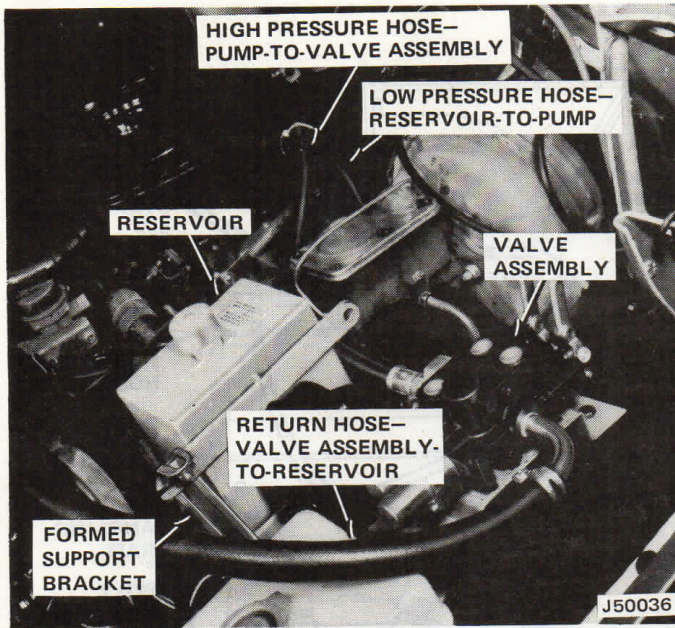
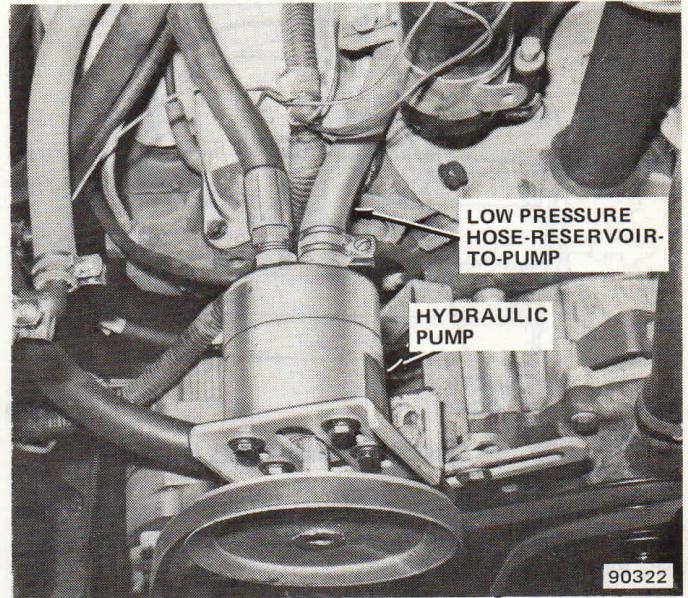

Fig. 1-35 Reservoir Installation—Cherokee-Wagoneer-Truck
Fig. 1-37 Hydraulic Pump Connections
(a) Cherokee-Wagoneer-Truck—Position on left side of engine compartment (fig. 1-35).
(7) Form bracket as required for installation of reservoir. (Bracket material is supplied with kit.)
(8) Drill necessary holes and install reservoir with screws, flat washers, lockwashers, and nuts (fig. 1-35 and 1-36).
(9) Install low pressure (return) hose from lower outlet on reservoir to upper connection on hydraulic pump. Secure with hose clamps.
(10) Cut hose and install inline filter. Secure with hose clamps (fig. 1-37).